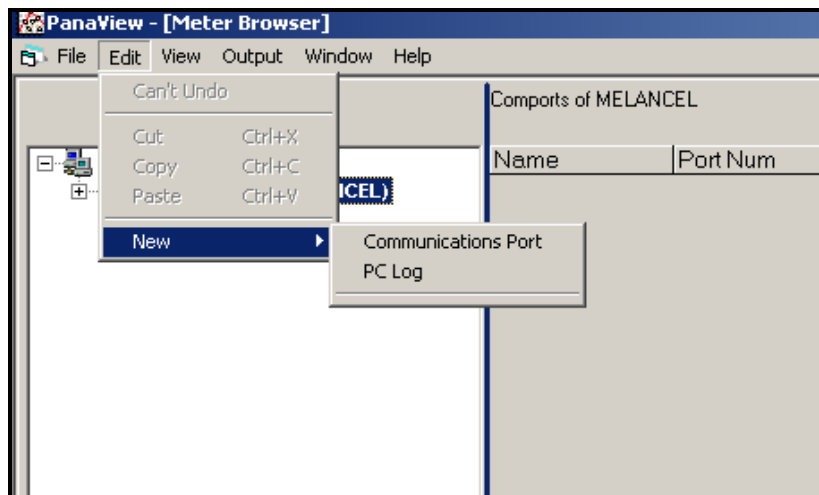

Figure 2: The Edit Menu
3. Click on the “*New*” menu option to select it, and a submenu opens with two choices on it (see Figure 2 below).